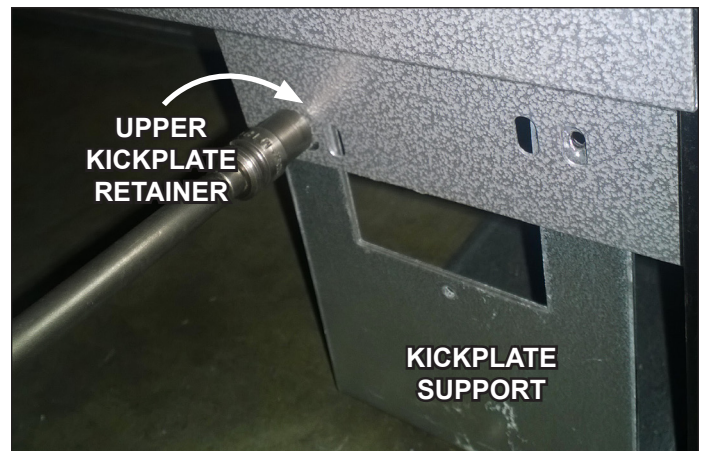
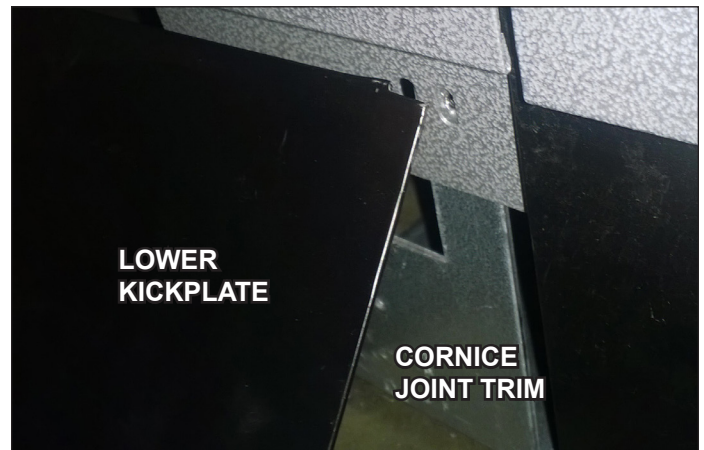

Fig. 8 Install the upper kickplate onto kickplate support
Fig. 9 Lower kickplate slides up behind upper kickplate retainer
6. The upper and lower kickplate assemblies are shipped loose in the case. Install the upper kickplate retainer onto the kickplate supports using the provided screws (Fig. 8). Then slide the top edge of the lower kickplate up under the edge of the upper kickplate retainer (Fig. 9)—when the lower kickplate is flat against the base-frame feet, lower it to the floor to complete the installation.